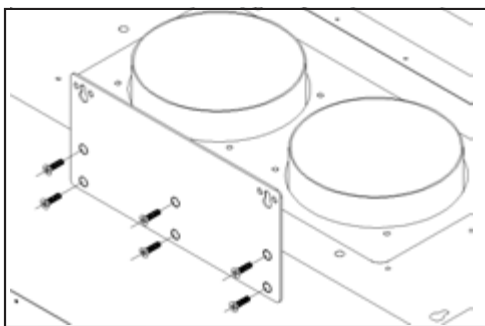

Figure 3
- B-3. Attach the hood-mounting bracket to the back of the hood with six screws as shown in Figure 3.